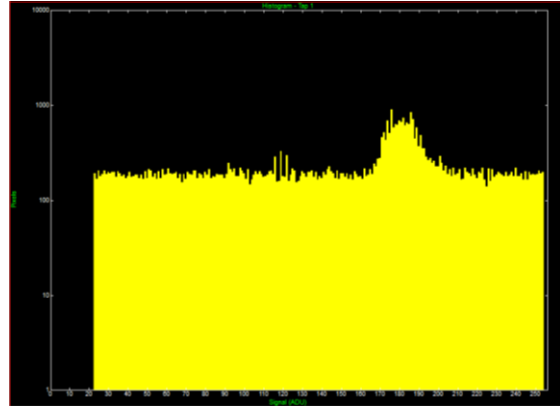

Figure 7: Plateau: 250, ITT: 150, Max Gain: 8
- Figure 7: Plateau: 250, ITT: 150, Max Gain: 8 8